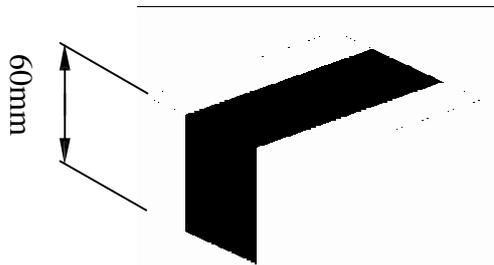

Figure 7-1
1. As shown in figure 7-1, rotate and adjust the shaft-spacer to be at the position which is 60mm below the taping head and rubber wheel, then the carton sealing length will be 60mm long.